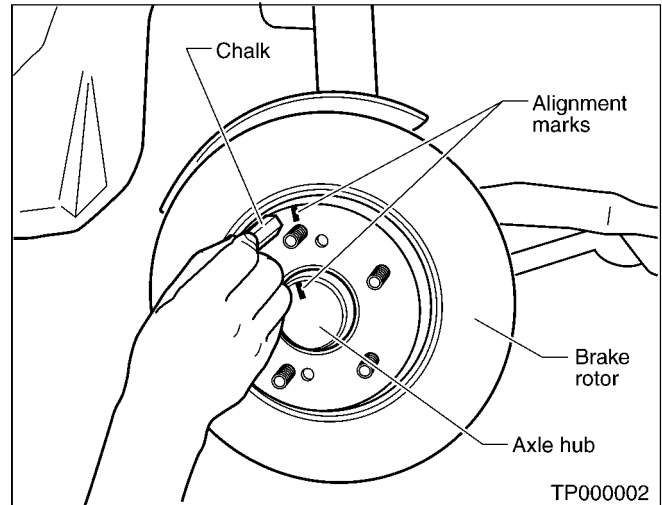

Figure 5
- If the rotor must be removed for any reason, mark the exact location (rotor to axle hub) before removing the rotor (see Figure 5).